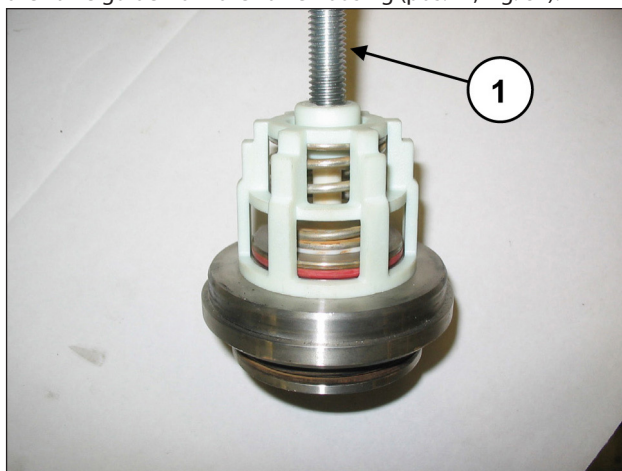

Fig. 87
Remove the suction and outlet valve units, unscrewing an M10 screw in such a way to press on the inner guide and remove the valve guide from the valve housing (pos. ①, Fig. 87).